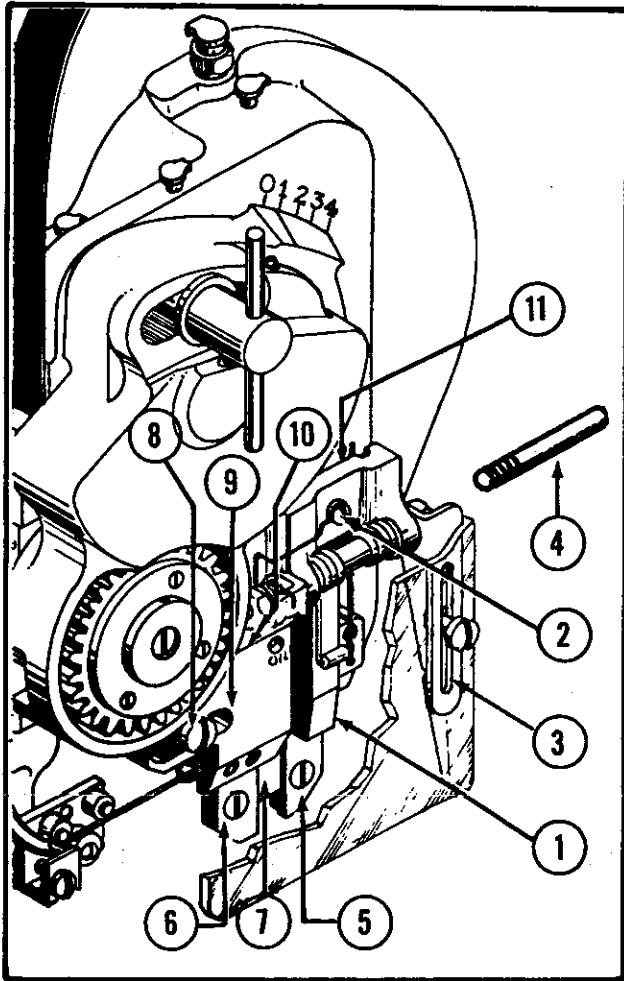

Figure 19—Removing and Replacing Gripper, Formers and Driver
e. **GRIPPER** (See Fig. 19)—Check for excessive wear at edges of gripper bar (1) anvil (surface upon which staples are formed), usually evidenced by rounded corners on formed staple.
4—When reinstalling gripper assembly in head, be sure that upper stud in gripper bar clamp piece, (153), Fig. 23, engages in slot in gripper clamp piece control slide, (167), Fig. 23; then replace and tighten gripper pivot screw, (4), Fig. 19.
f. FORMERS AND DRIVER (See Fig. 19)